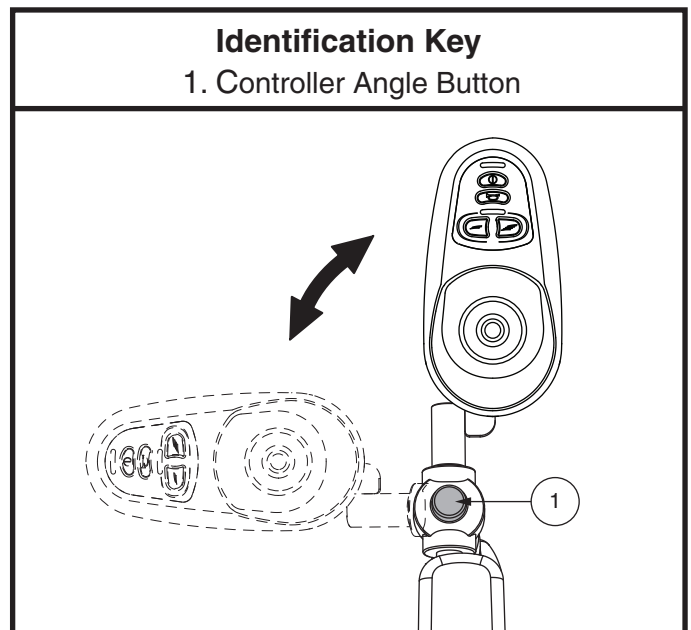

Figure 11. Controller Angle Adjustment
1. Press and hold the controller angle button and swivel the controller left or right into the desired position. **See figure 11.**